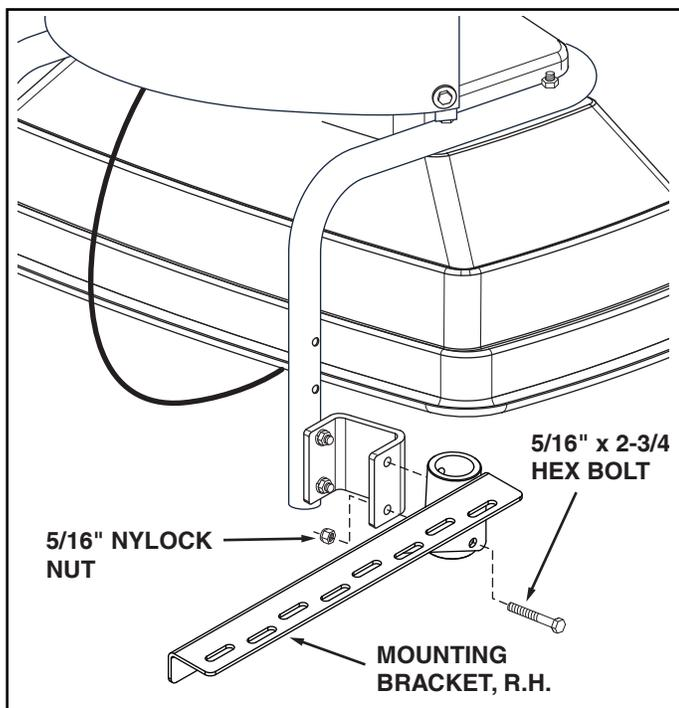

FIGURE 5
- Attach the R.H. mounting bracket to the extension bracket shown in figure 5 using two 5/16" x 1" hex bolts and 5/16" nylock nuts. **Tighten.** Repeat on the other frame leg with the L.H. mounting bracket.